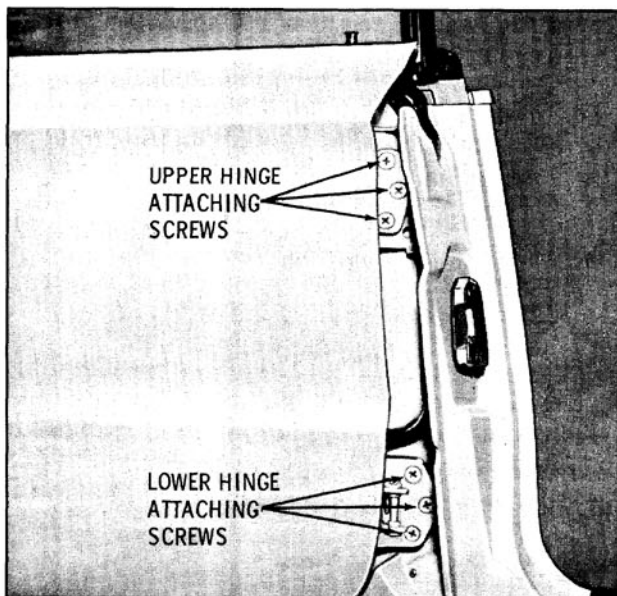

Fig. 16-58 Rear Door to Pillar Attachment
4. With door properly supported, remove three upper and lower hinge attaching screws at door hinge pillar or center pillar depending on method of removal. (Fig. 16-58 and 16-59)
2. To adjust door fore or aft, loosen hinge to center pillar attaching screws, adjust door fore or aft as required and tighten screws. (Fig. 16-58)